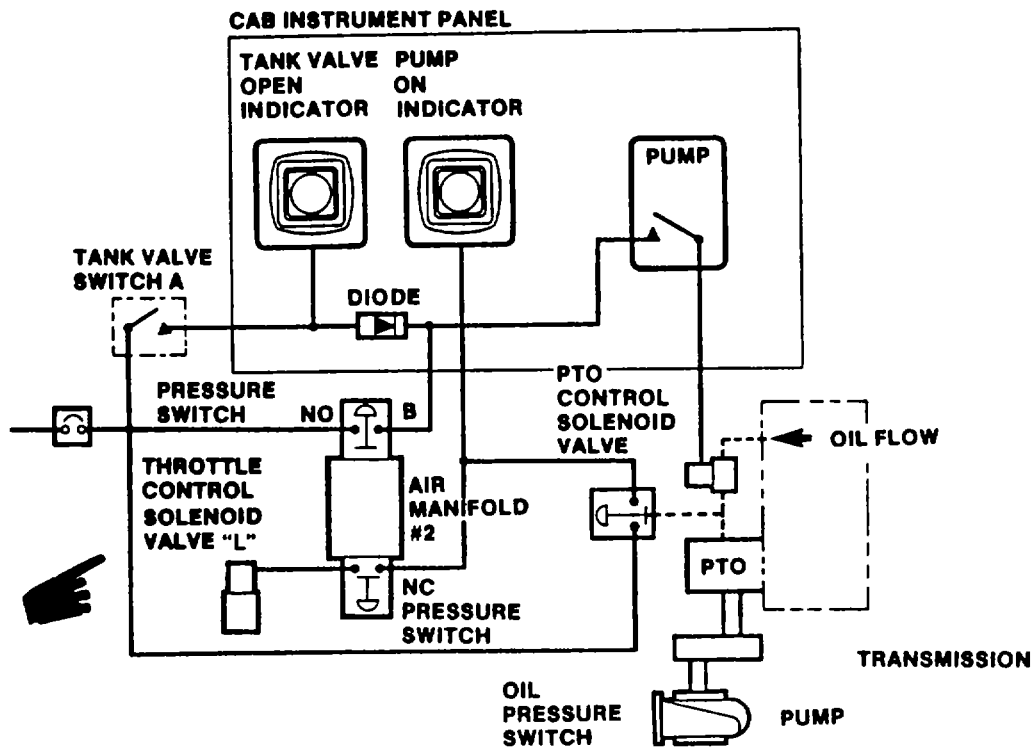

Figure 1-38. System Interlock Control
(1) When the tank valve is opened in CFR mode, the switch (A), located on the tank valve, closes. This action causes the TANK VALVE OPEN indicator to illuminate and also enables the circuit to the pump switch, (see fig. 1-38).
(2) When the pump is switched ON, the PTO solenoid valve is energized. This allows pressurized oil from the transmission to engage the PTO clutch. The oil pressure also triggers the oil pressure switch causing the PUMP ENGAGED indicator to illuminate and the throttle control solenoid valve (L) to energize. The pressure switch (C) remains closed since no air pressure is applied to manifold # 2 in CFR mode, (see para. 1-19 e.)